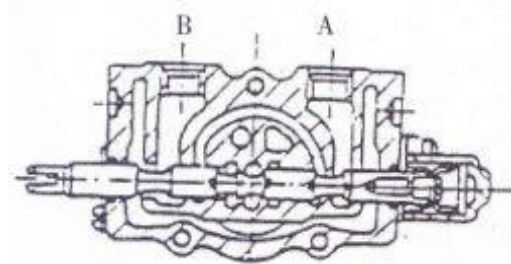

Fig. 5-6 Pull Out Slide Valve
c) Pull out the slide valve (Fig. 5-6)